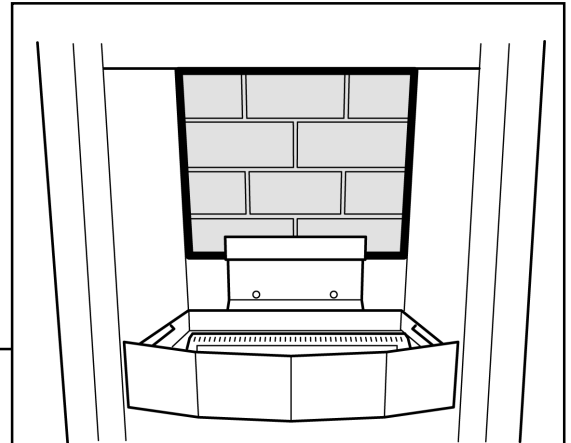

Figure 2 Ceramic Rear Wall Position
1. Fit the ceramic rear wall into the bracket at the back of the firebox .See figure 2.